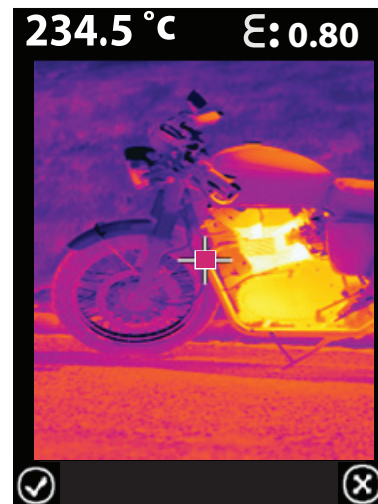

Fig 8-2 Image Save or Discard screen
4. Press  to save the image or  to discard the image (see Fig 8-2) within 5 seconds.
Hint: After an image is captured, a check mark  appears above the  button (save image) and an  icon appears above the  button (discard image) for 5 seconds. Refer to Fig 8-2. If not buttons are pressed within 5 seconds, the image is automatically discarded.